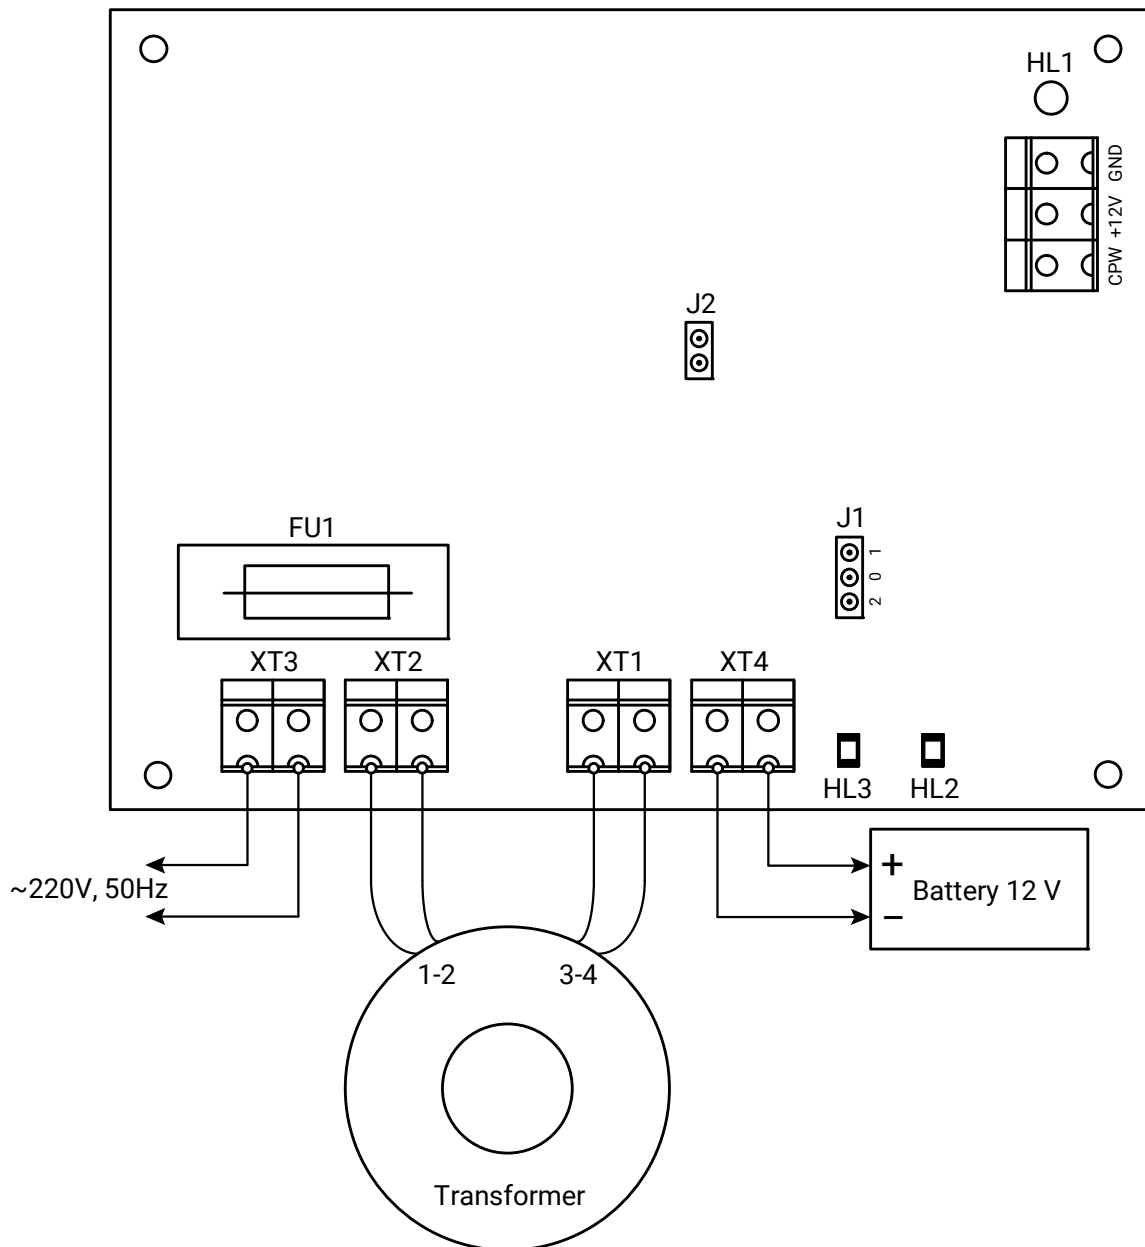

Fig. 1. Connection diagram
1. Connect the transformer to the connectors XT1 and XT2 (see fig. 1).